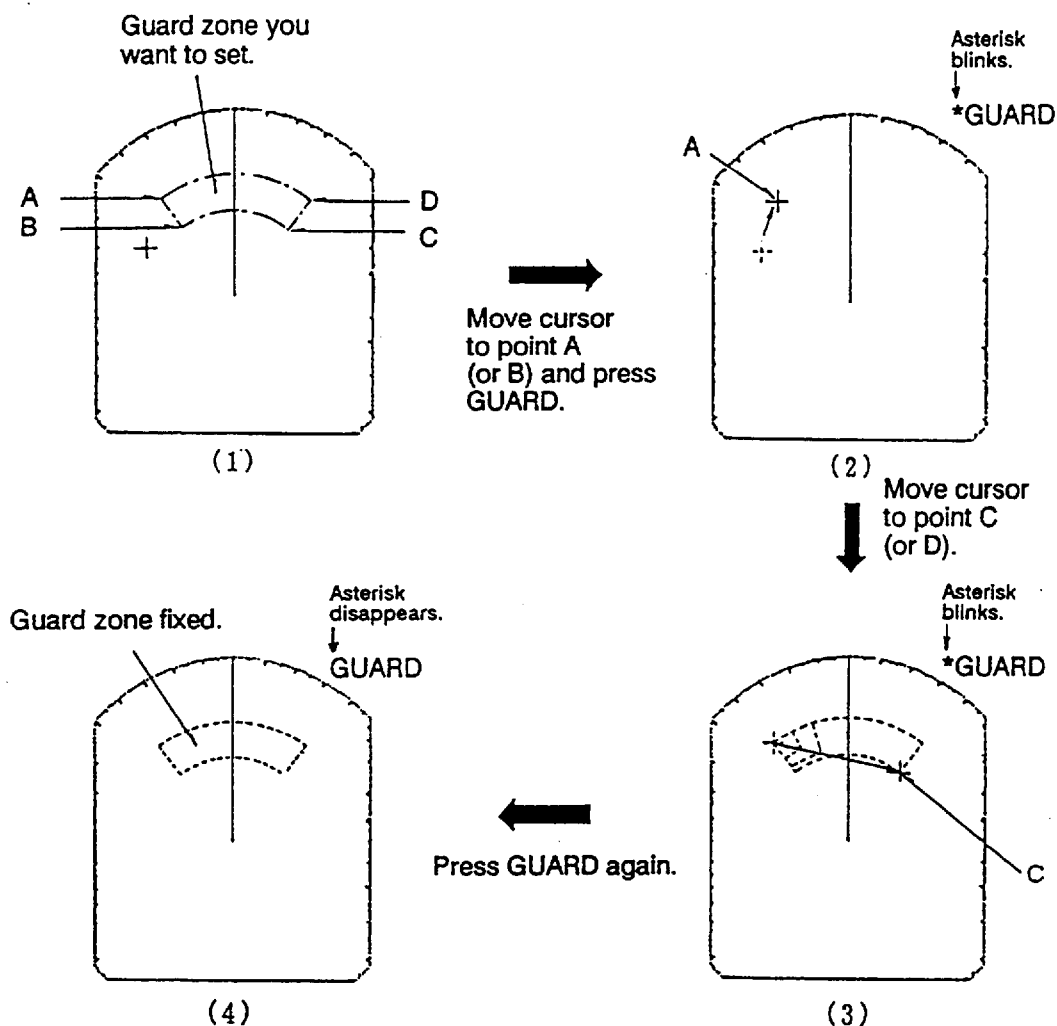

Figure 2-14 Setting Guard Zone
1. Mentally create the guard zone you want to display on-screen. See Figure 2-14 (1).
2. Set the upper (lower) left edge of the guard zone with the cursor. Press the **GUARD** touchpad. The indication "\*GUARD" (asterisk blinking) appears at the upper right-hand side of the screen. See Figure 2-14 (2). The asterisk indicates the guard zone is partially set, but the alarm function has not been actuated. It disappears once the guard zone is set completely.
3. Moving the trackball clockwise, set the lower (upper) right edge of the guard zone. The guard zone now appears on the display and the alarm function has been actuated. See Figure 2-14 (3).
4. Press the **GUARD** touchpad again. The asterisk disappears and the alarm function is actuated after three to five antenna scannings, and then, the indication "GUARD" is replaced by "G (IN)" or "G (OUT)".